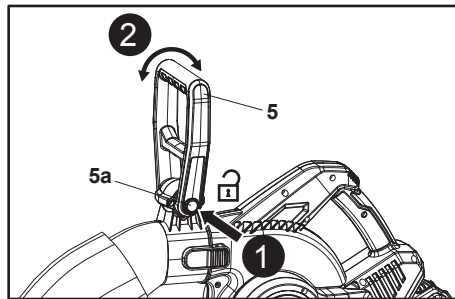

Fig. 9
1. Press down the locking knob (5a) and hold it in position, then rotate the front handle (5) forward and backward to adjust the angle (Fig. 9, steps 1, 2).
2. Release the lock button (5a), and continue to gently move the front handle (5) until it locks in place. Ensure the tooth system locks in place.